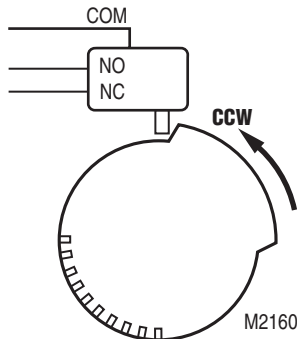

Figure 4. Switching configuration (top view) for counterclockwise ↻ rotation.
Note: With switch cam as shown in Figure 4, the normally closed contact opens during counterclockwise rotation and the normally open switch closes.
5. Move each cam inside switch assembly to the appropriate position. Remember the direction of travel of the cam for switching purposes (see Figure 4 and 5). Monitor the switch closure with an ohmmeter for a continuity check. See Table 1.